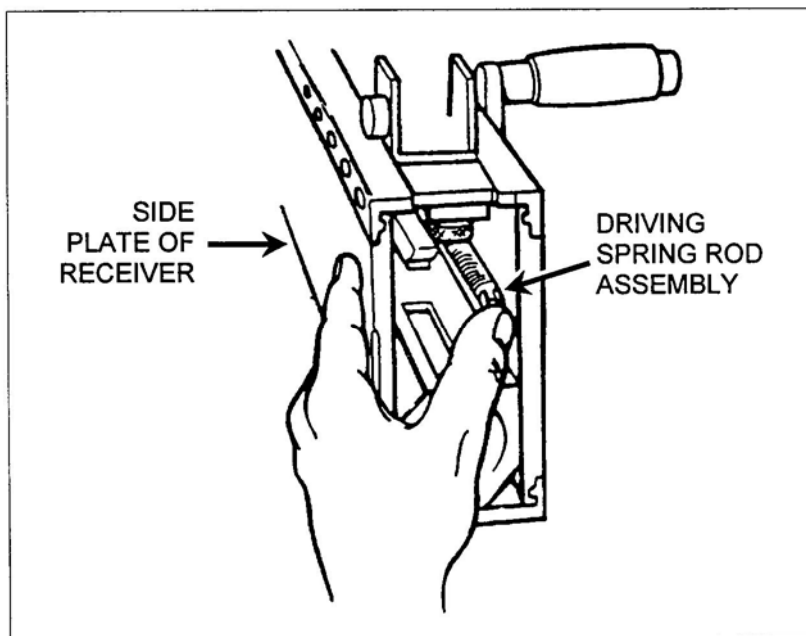

Figure 41. Installation of the driving spring rod assembly.
- f. Assemble driving spring rod assembly (Figure 41). Install the driving spring rod assembly in the upper right corner of the bolt. Push forward and to the right until the driving spring rod assembly engages in the hole in the side plate of the receiver--not in the groove for the backplate.